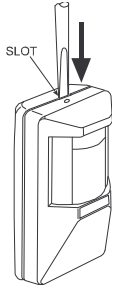

Figure 3. Removing the Cover
- A. Insert a small screwdriver into the slot on top of the unit (Figure 3). Press the blade in between the cover and the base, then push downwards and lever backwards. The top part of the cover (equipped with the lens) will snap free. You may now hinge the top of the cover outward, separate the bottom legs of the base from the slots in the cover and remove the cover.